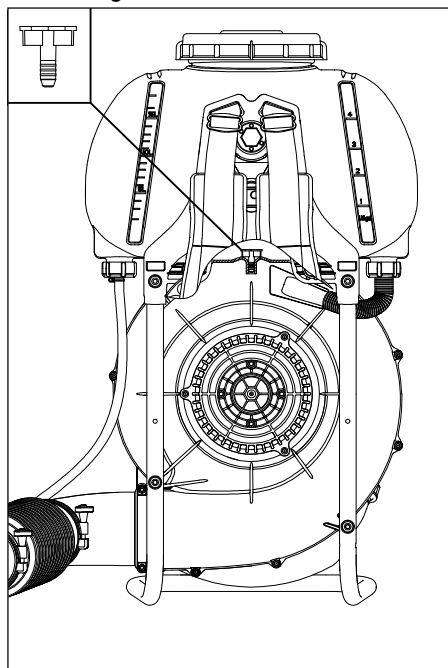

Figure 3 Remove grid
- Unscrew the red liquids tank cap; remove the white plastic cap from the bottom of the tank, at the center, as shown in the box at the top left of Figure 3.